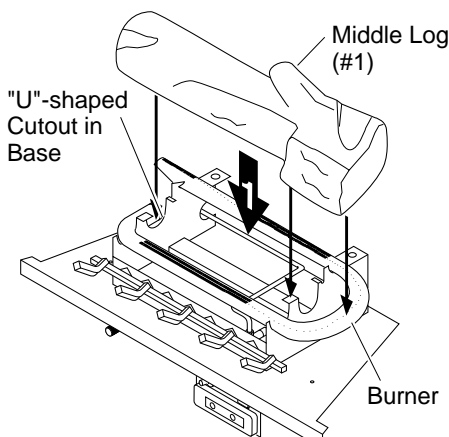

Figure 44 - Installing Middle Log (#1)
1. Place the base of the middle log (#1) in the U-shaped slots of the grate base. The cutout on the right of the middle log should fit over the burner (see Figure 44). Make sure the front of the middle log is resting on the tabs of the grate base and the cutout area is centered over the burner "U" bend.